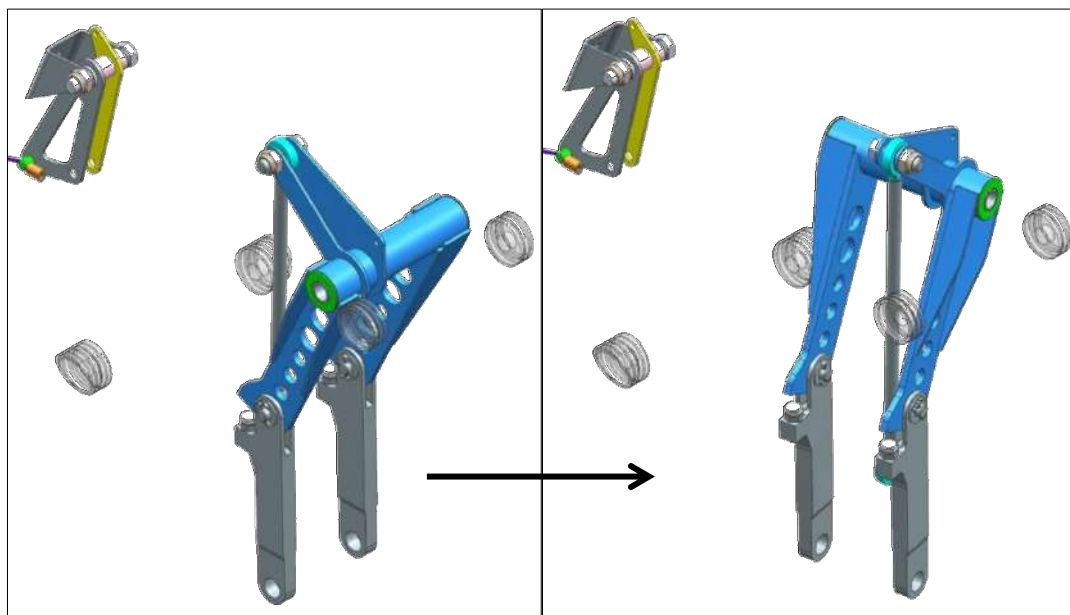

Figure 32-19: Removing BC1TW/RL2TW assembly
5. Remove the BC1TW/RL2TW assembly from the wheel well by turning sideways (Figure 32-19). If not done already, disconnect the rear spring (Figure 32-3, Item 12).